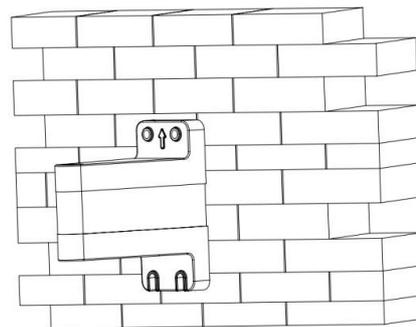

Fig. 2: Wall mounting
Step 1: Choose a suitable position on the wall. Mark and drill 4 holes to correspond with the holes in the wall bracket (Fig. 2).